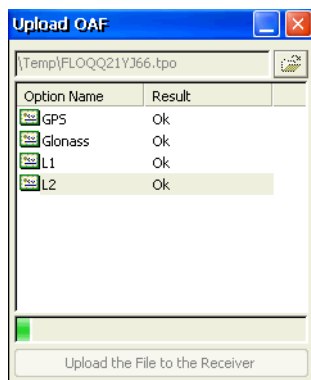

Figure 4-6. Options Uploading in Progress
1. After you press the **Upload OAF** button, the contents of the dialog box will change. It will show the options that have been installed with the new OAF, and the progress bar (Figure 4-6).